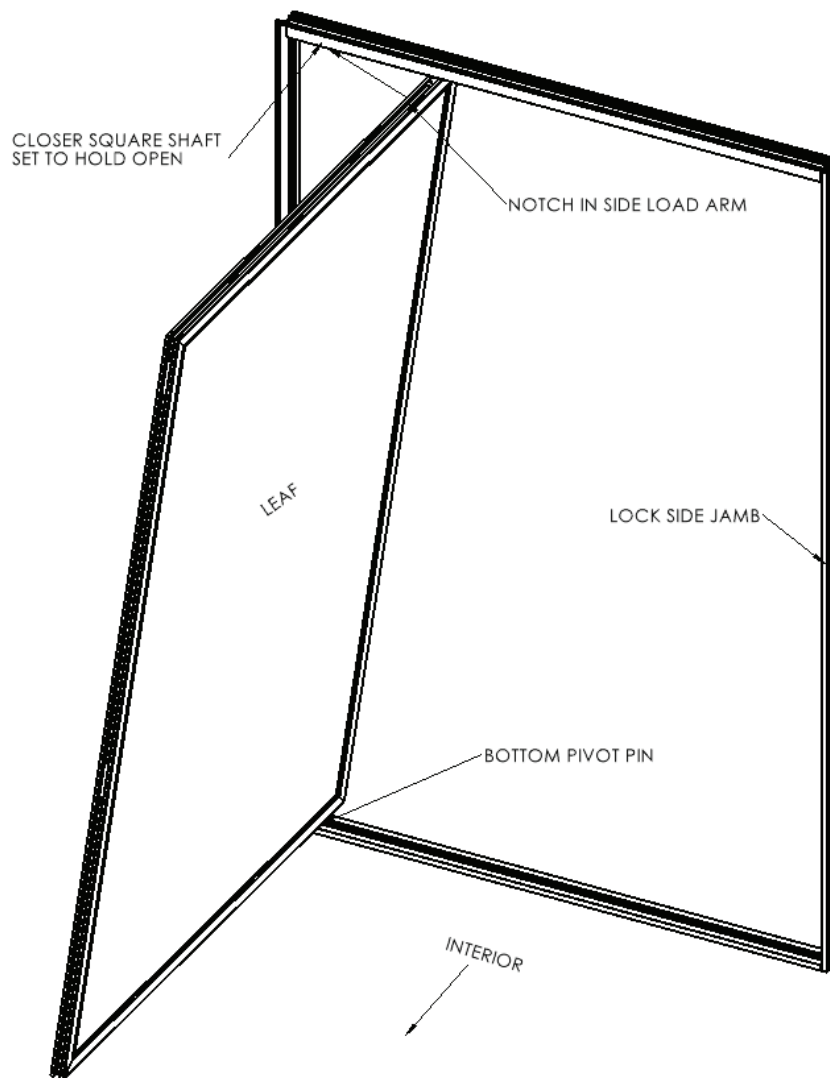

Figure 7
3. Turn door leaf at a 90-degree angle to the frame with the top leaning toward the lock side jamb, set lower pivot block in the bottom of the leaf over the pivot pin in the sill. See Figure 7